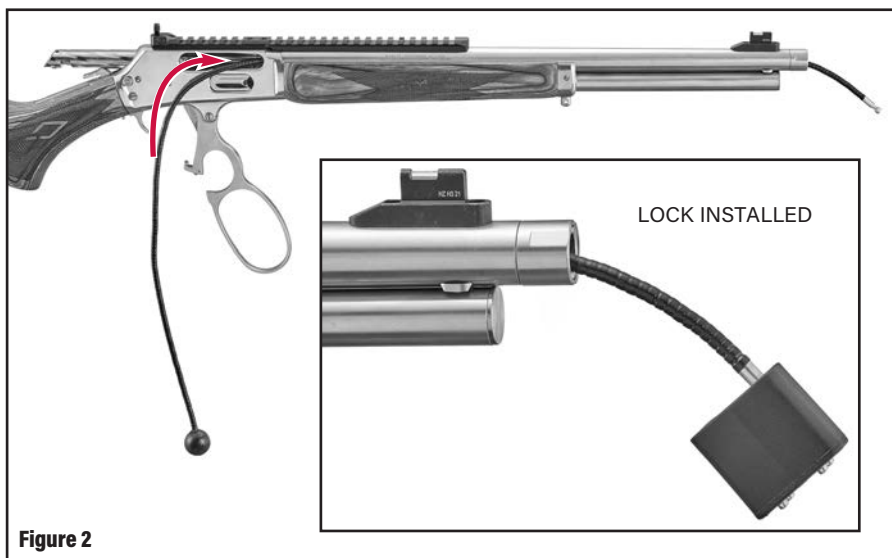

Figure 2
5. Insert the portion of the cable that fits into the lock body into the rifle's ejection port and feed it down the bore until it protrudes from the muzzle. See Figure 2.